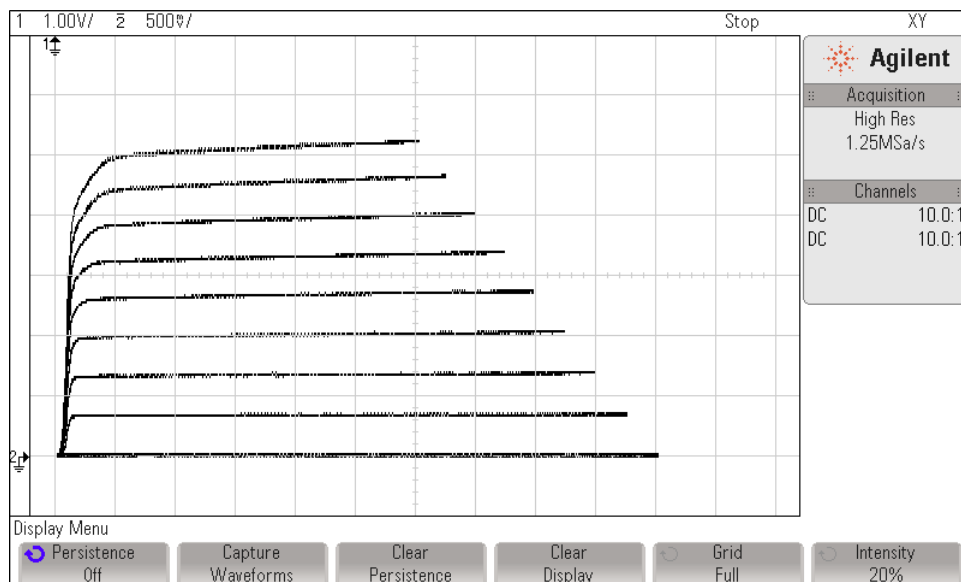

Figure 3. Family of Curves.
14. Decrease  $I_B$  by  $\Delta I_B = 20\mu A$  and repeat step 5 until  $I_B = 0\mu A$ . You should end up with a display like the one shown in Figure 3.